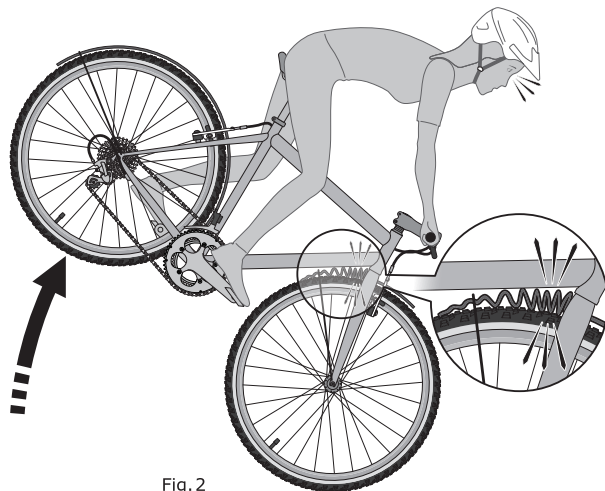

Fig. 2
**⚠ WARNING: Any object that unexpectedly and abruptly stops the rotation of the front wheel can cause the bike and rider to pitch forward [Fig. 2], which can result in serious injury or death.**